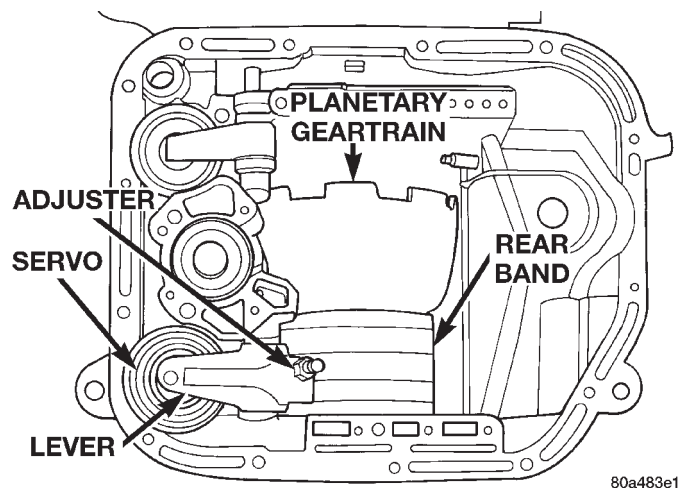

Fig. 80 Rear Band Adjuster Location
(26) Loosen rear band adjusting screw 4-5 turns (Fig. 80).